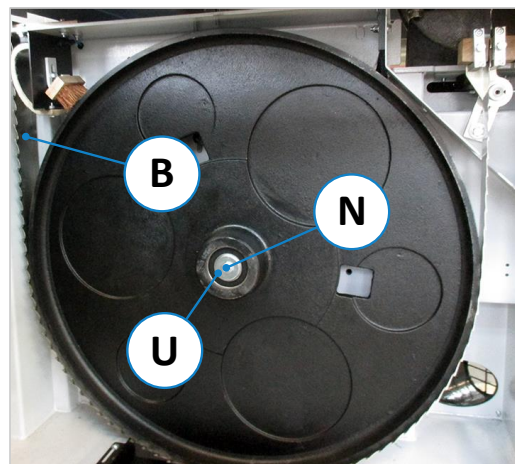

Figure 92: Replacing the drive belts
- Tighten the tensioning nut (**S**) on the threaded rod (**G**) with an open-end spanner SW17 until the correct belt tension is achieved (see also ⇒ Figure 92).
- Remove the hexagon head screw (**N**) with a SW 19 spanner and take off the washer (**U**) from the wheel hub (see ⇒ Figure 92).